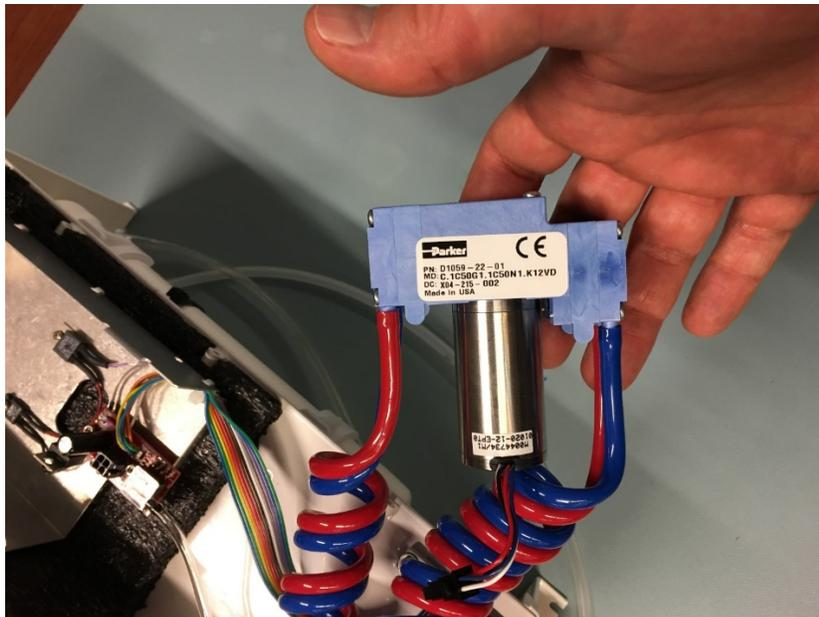
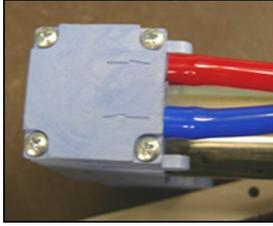

FIGURE J-10. Inlet and outlet tubing reconnected to pump
FIGURE J-11. Pump side with inlet and outlet tubing connected
1. Position the pump with the label up and connect the coiled tubing on both sides of the pump (see FIGURE J-10). Blue tubing connects the inlets and red connects the outlets as directional arrows show on the side of the pump (FIGURE J-11).